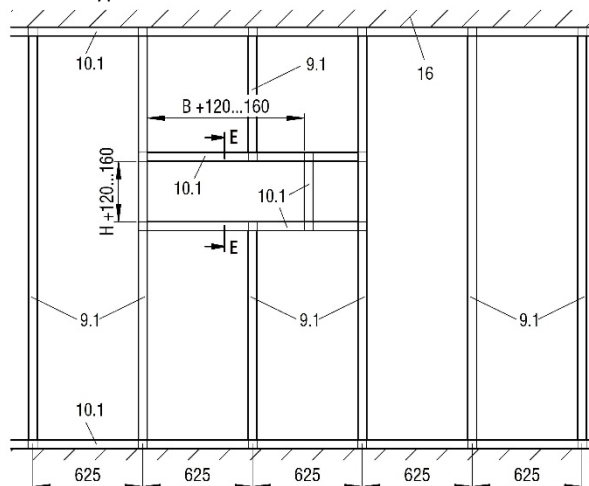

Figure 19: Metal posts with required exchange parts for wet installation (shaft wall)
- Mount the metal posts and the wall in accordance with the specifications of the wall manufacturer and the required exchange parts as shown on Figure 19.
- Construct a circumferential reveal (pos 20.1) with 20 mm plasterboards and screw them centrally to the circumferential metal profile frame (pos. 19.1 - fastening: e.g. drywall screws $\varnothing 3.5 \times 35$ mm, screw distance ≤ 250 mm, but at least 2 screws per side).
- Insert mortar (pos. 13; mortar bed depth at least 130 mm) into the circumferential annular gap between the housing of the BKP-EN and the circumferential reveal (pos. 20.1).